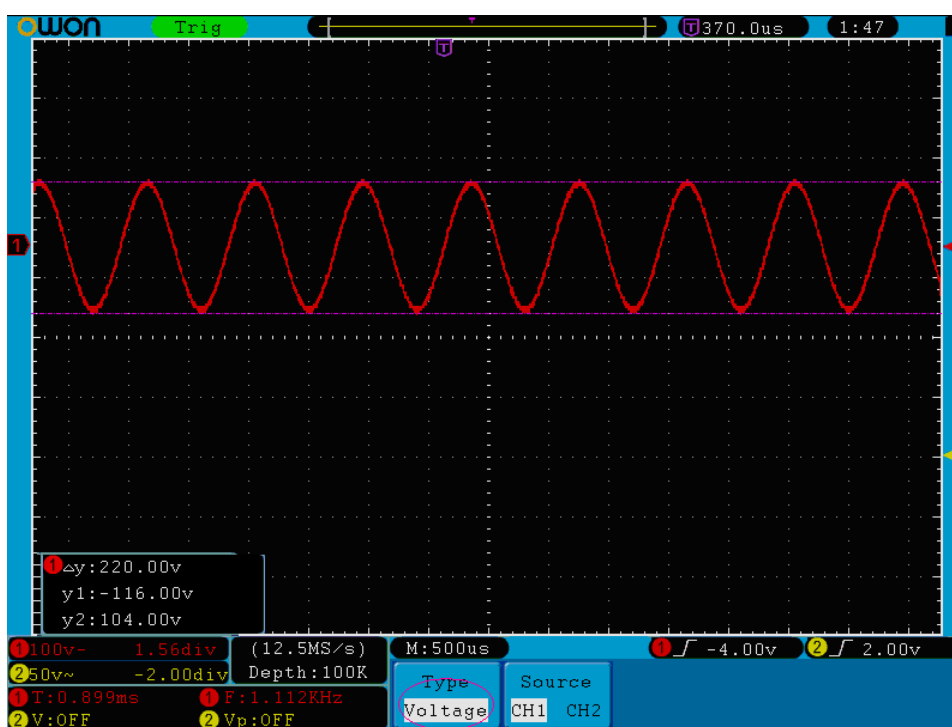

Fig.5-48 Waveform of Voltage Cursor Measurement
4. Adjust the positions of **CURSOR1** and **CURSOR2** according to the measured waveform. Cursor increment window at the left bottom of waveform shows absolute value of D-value of cursor 1 and cursor 2 and the present position of the two cursors. (see **Fig.5-48**).